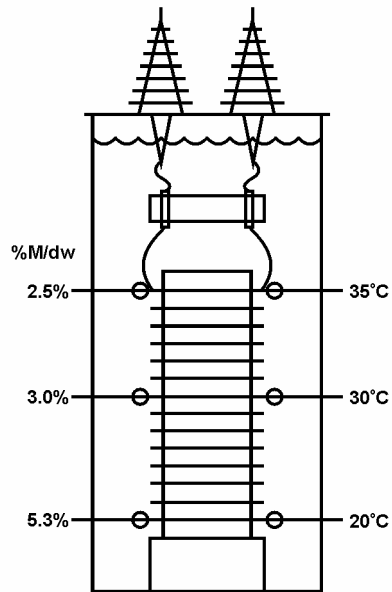

Figure 53 – Water Distribution in Transformer Insulation.
6.1.11.2 Moisture in Transformer Insulation. Figure 53 shows how moisture is distributed throughout transformer insulation. Notice that the moisture is distributed according to temperature, with most moisture at the bottom and less moisture as temperature increases toward the top. This example shows almost twice the moisture near